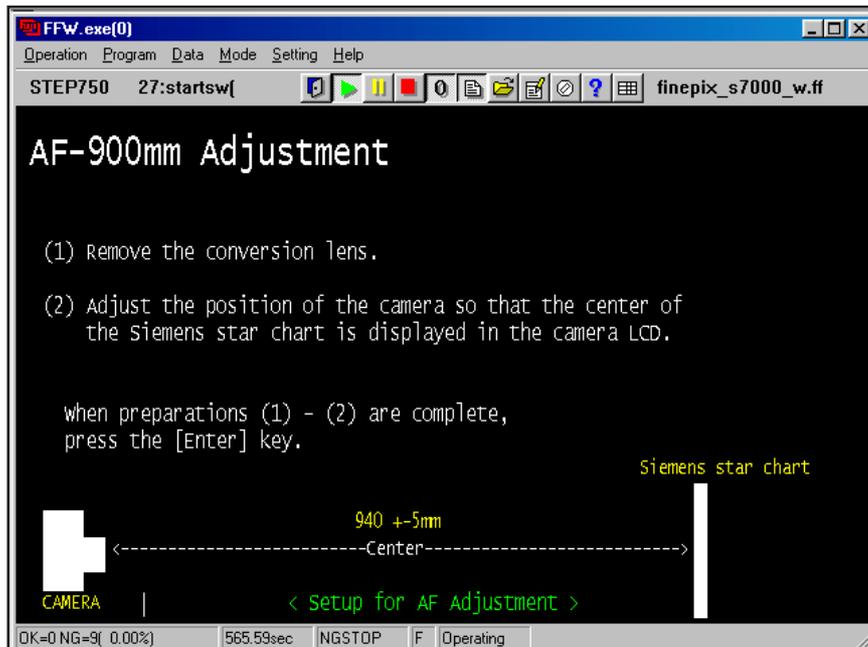

Fig.24
--->The [AF 900mm Adjustment screen(Fig24)] appears.